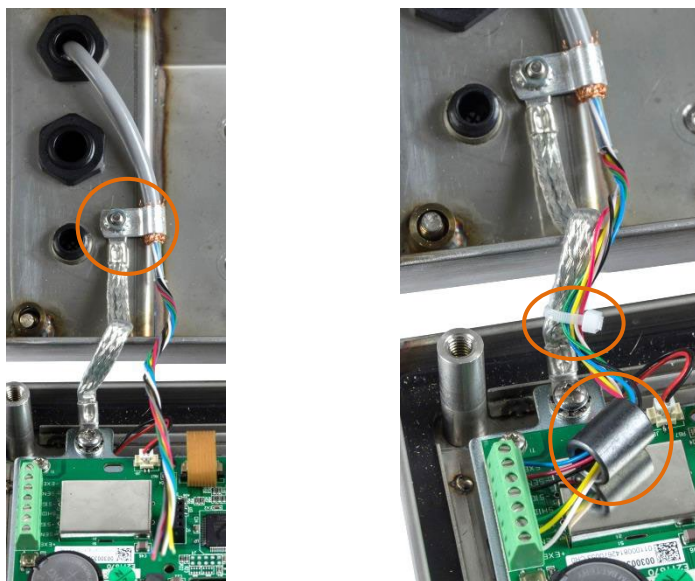

Figure 2-30: Analog Load Cell Cable Ferrite Installation and Chassis Grounding, IND236
5. Connect the grounding clip to the enclosure using the enclosure hinge attachment screw, as shown in Figure 2-30 (left).